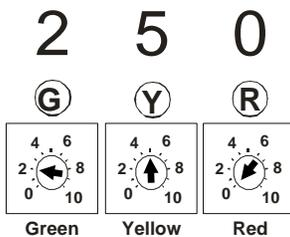
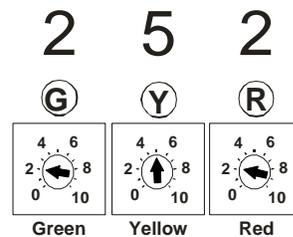

FIGURE 4
FIGURE 5
1. Start with the base setting in Figure 4 if a full exhaust system is installed. If a full exhaust system is installed in combination with a Cobra PowrFlo™ Air Intake System use the setting in Figure 5, please visit: www.cobrausa.com for system details. Refer to Step 2 if the stock exhaust is installed or a slip-on muffler is being used to determine the proper pot settings. Adjust and test only ONE adjustment pot at a time until you are happy with the result.